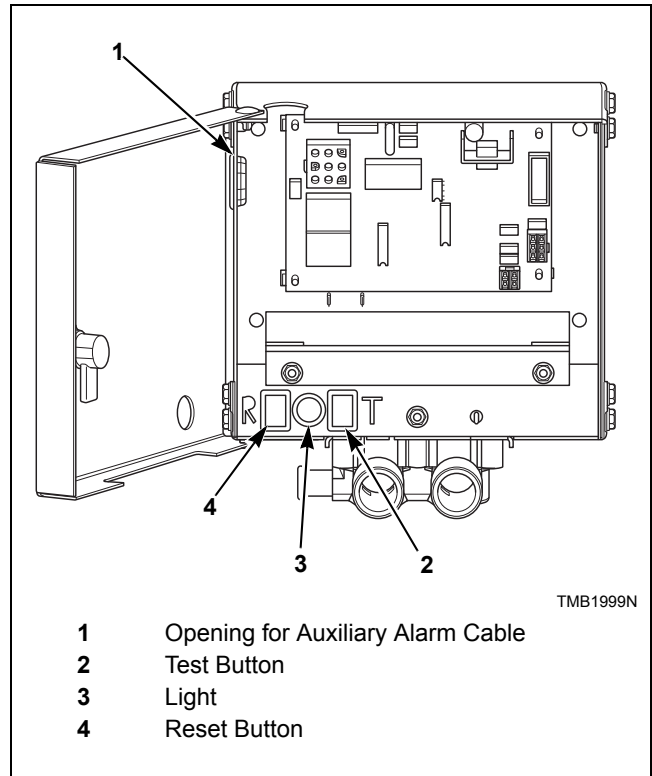
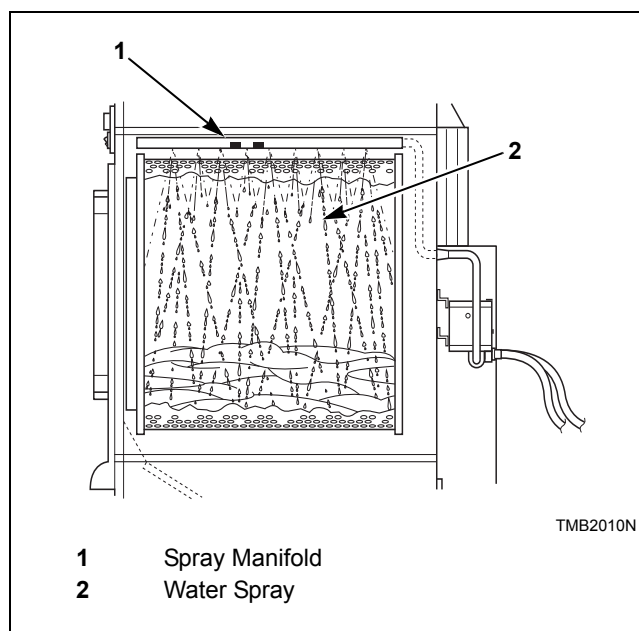

Figure 42
Figure 43
6. Press and hold the test button, verify the light is on, this should take approximately five seconds. Refer to *Figure 42*. After a one-second pause water should begin to spray into the cylinder.
7. After 15 seconds of water spray, press and hold the reset button until water spray is off and light is off. This should take approximately one second. Refer to *Figure 42* and *Figure 43*.